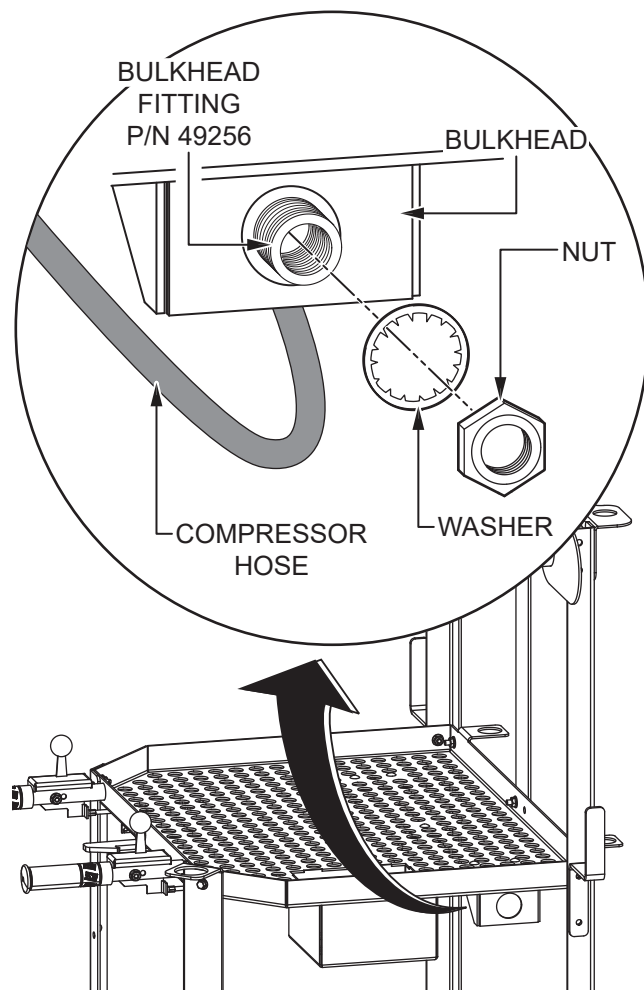

Figure 15. Bulkhead Fitting Installation
2. Insert the bulkhead fitting (P/N 49256) at the end of the compressor hose through the bulkhead. Place the bulkhead washer and nut onto the bulkhead fitting and tighten to secure the bulkhead fitting to the bulkhead. See Figure 15.